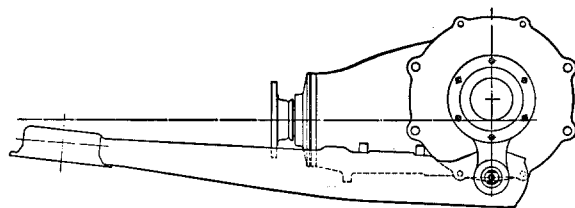

Fig. 35 — 4/10
34. Slide the tightening washer (35) (wheel side) onto the supporting tube (2). Then press the torque arm (30) onto the supporting tube (2) of the axle tube (1) in such a way that the front edge of the torque arm is approximately on a level with the center line of the joint flange (Fig. 35 — 4/10).
35. Push the tension disk (36) and a new locking plate (37) onto the supporting tube (2), screw in the hexagon screw (38), tighten it up and lock it by tapping over the locking plate (37) (see Fig. 35 — 4/8).